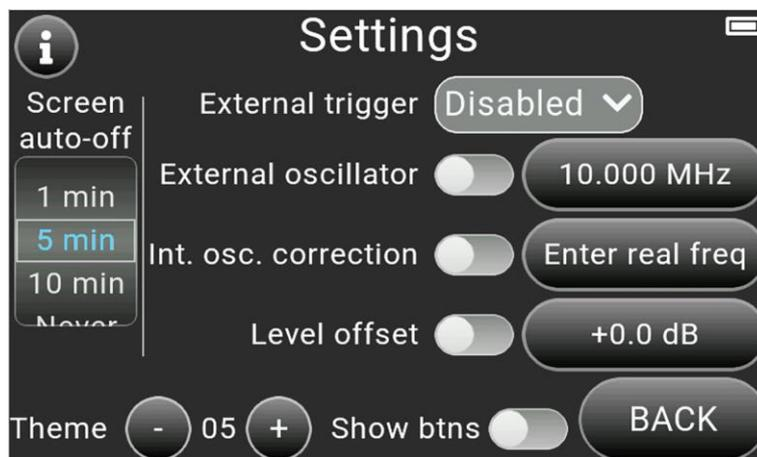

Figure 10.9 – Menu of additional options
10.6.1. Enter the additional **Settings** menu by pressing the button on the device screen. The additional options menu is shown in Figure 10.9.
10.7.1. Enter the **Settings** advanced options menu by clicking  on the device screen (Fig. 10.9).
10.8.1. Enter the additional **Settings** menu by pressing the button  on the device screen (Fig. 10.9). By default, the **External trigger** control option is disabled **Disabled**.
10.9.1. Enter the additional **Settings** menu by pressing the button  on the device screen (Fig. 10.9). Switching between the external and internal sources of the reference signal is performed by the "slider" of the **External oscillator**. Set the frequency of the external reference signal.
10.10.1. Enter the additional **Settings** menu by pressing the button  on the device screen (Fig. 10.9). The input signal frequency adjustment mode is enabled by the **Int. osc. correction** slider. Set the actual frequency of the output signal. The difference between the current frequency value and the input reference value should not exceed  $\pm 0.1\%$  (1000 ppm) of the current frequency. Otherwise, a message appears stating that this adjustment cannot be applied.
10.11.1. Enter the additional **Settings** menu by pressing the button  on the device screen (Fig. 10.9). The power level offset of the output signal is enabled by the slider **Level** offset. Set the power level offset value. When connecting an attenuator, use negative offset values, such as -10, -20, etc., and when connecting an amplifier, use positive values, such as +10, +20, etc.
10.12.1. Enter the additional **Settings** menu by pressing the button  on the device screen (Fig. 10.9). Switching the themes of the on-screen interface is carried out using the buttons  and .